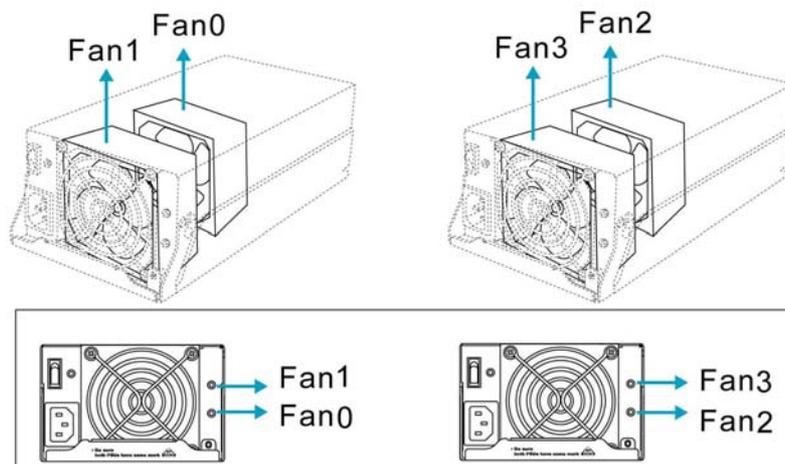

Figure 4-10: Cooling Module LEDs and Cooling Fan Locations
Each cooling module has two (2) red LEDs located on the PSU module. Each LED corresponds to an individual cooling fan. (See *Figure 4-10*) Please refer to the cooling module LED definitions shown in *Table 4-8*.